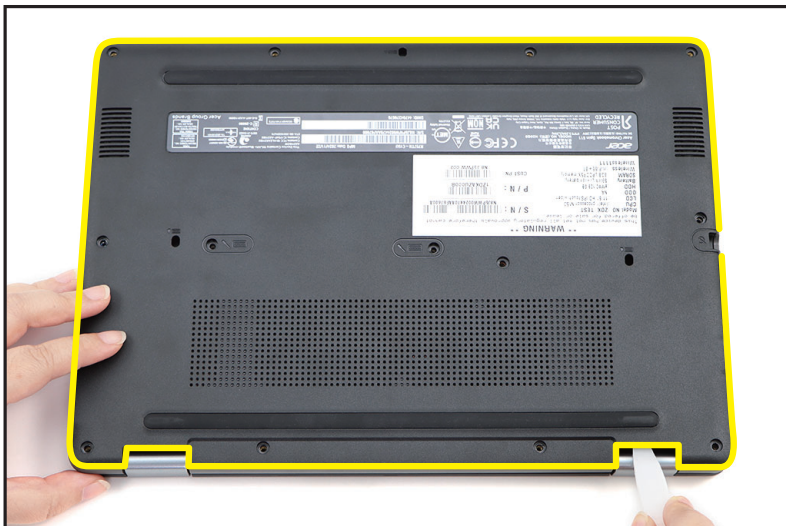

Figure 1-4. Base Cover Removal
2. Carefully pry up the base cover starting from the hinges slots to release the upper side latches. Then continue releasing the remaining latches on the left, right, and bottom sides (Figure 1-4).